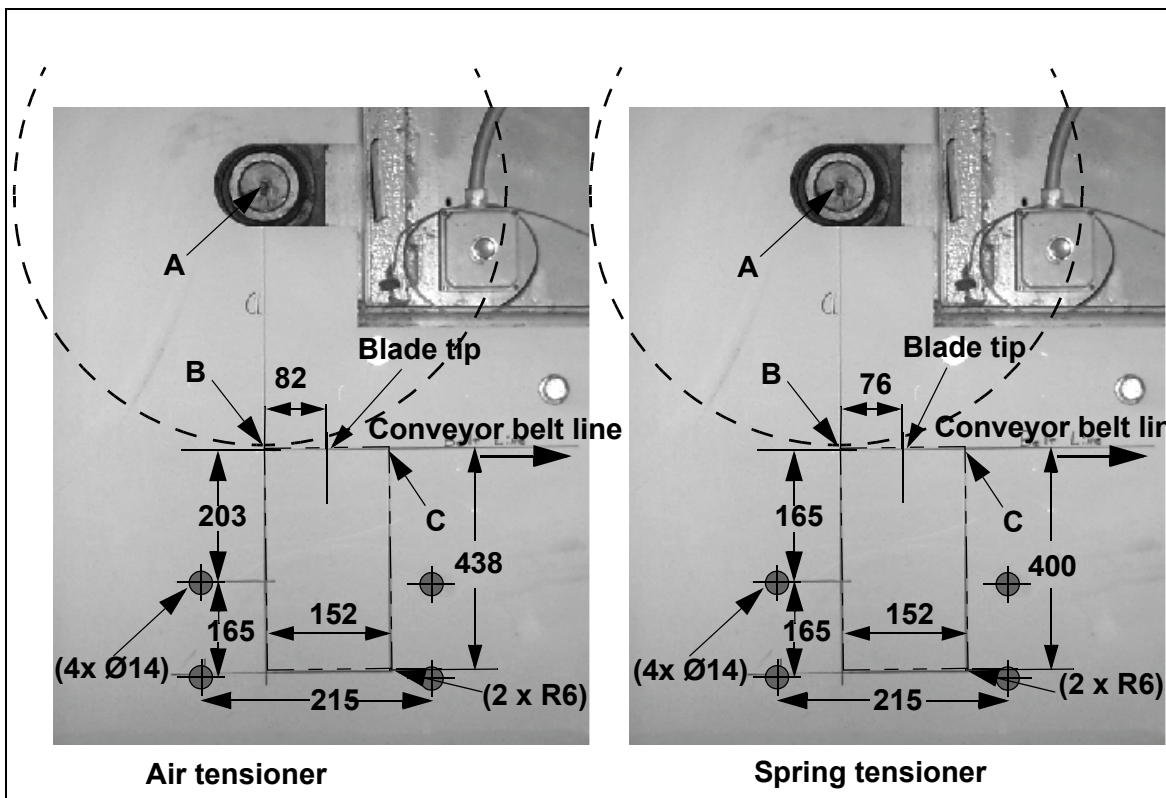

Abb. 1: Creating the installation openings in the chute
3. Mark the vertical and horizontal centre line of the driving drum on the operator side of the chute wall to determine the midpoint (A) of the driving drum. The vertical line must run at right angles to the conveyor line.
4. Mark one position at a distance of 51 to 102 mm in the direction of conveyance starting from the point at which the conveyor belt leaves the head drum (B).
5. At this position (C) mark one vertical line at a right angle to the conveyor belt.
6. Take the dimension from Fig. 1 and mark the installation holes in the spring tensioner.
1. Prepare the installation openings for the scraper axis and prepare installation openings for the tensioner according to Fig. 1. Deburr all openings and boreholes.